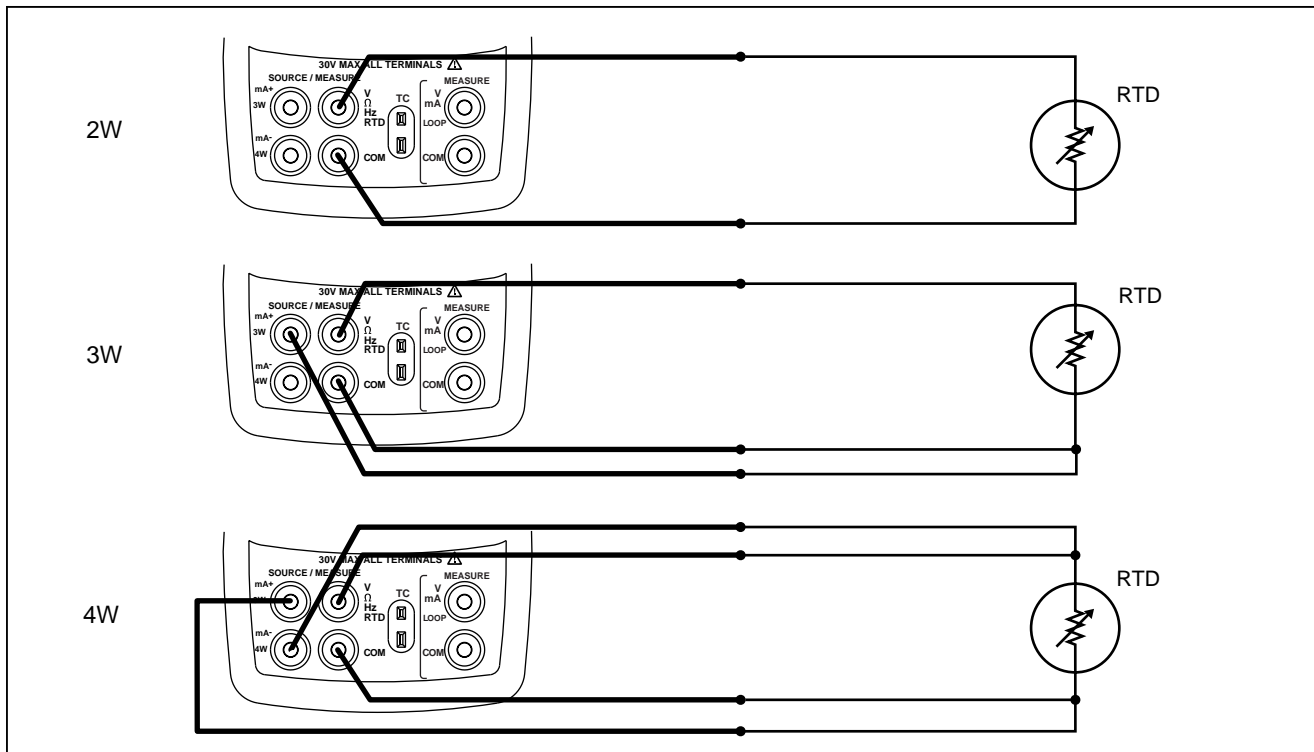

Figure 10. Measuring Temperature with an RTD
4. Attach the RTD to input terminals as shown in Figure 10.